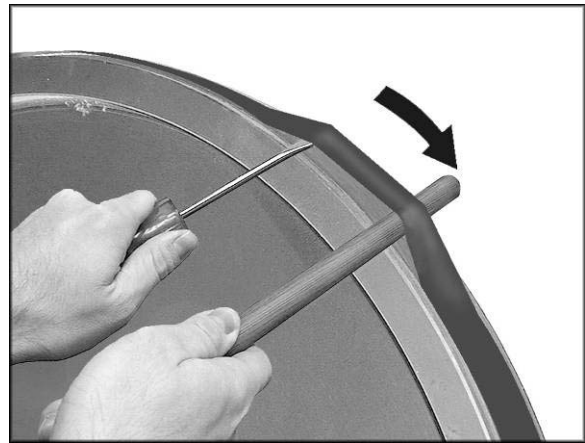

Figure 38
3. Insert a flat head screwdriver beneath the lip of the tire. Pry up the tire and pull it off the wheel. If this proves difficult, insert a wood wedge or dowel into the opening (see Figure 38), and continue to pry around the perimeter of the wheel until the tire comes off the wheel.